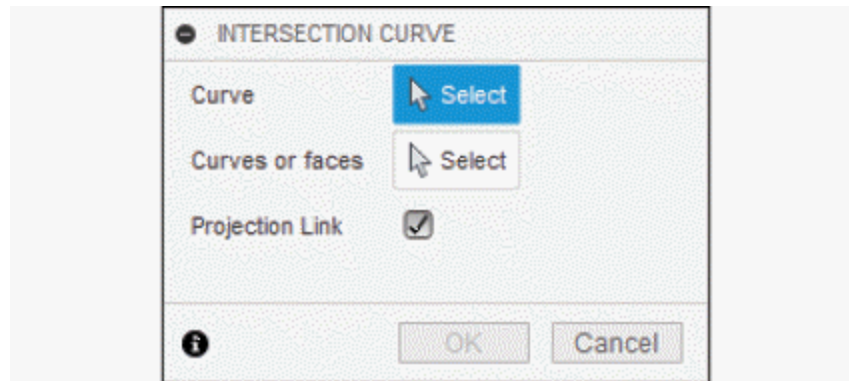

Figure-156. INTERSECTION CURVE dialog box
- Click on the **Intersection Curve** tool from the **Project/Include** cascading menu of the **CREATE** drop-down in **Toolbar**. The **INTERSECTION CURVE** dialog box will be displayed; refer to Figure-156.